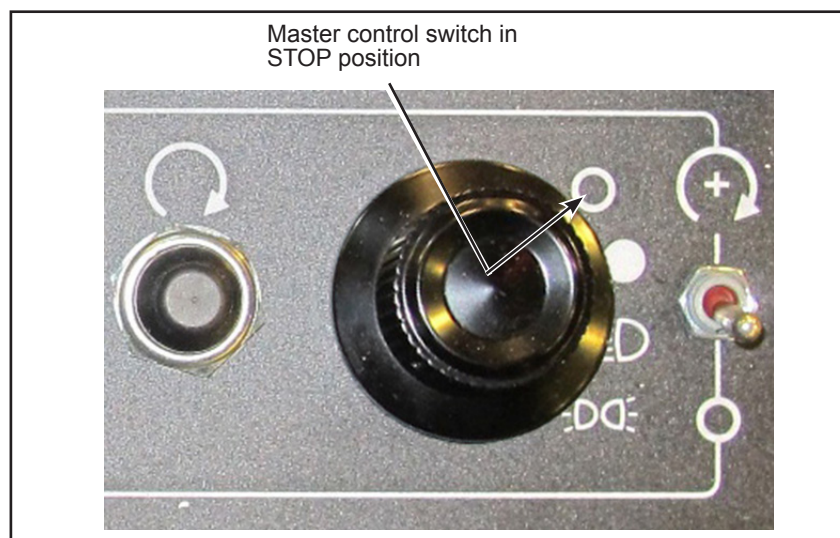

Figure 1 - Master Control Switch in STOP Position
- 1.2. Place the Master control switch in the STOP position (see Figure 1).